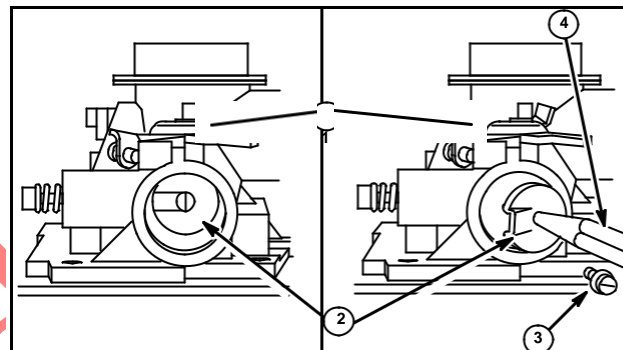

Fig. 36
Install Throttle Shaft and Plate (Fig. 36)
Insert throttle shaft (1), place throttle plate (2) on flat side of shaft and secure with throttle plate screw (3), Fig. 36. Pencil (4).